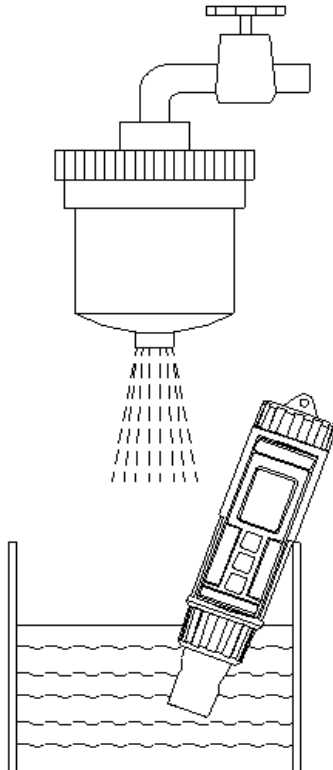

Fig. 4
3) Secondary check the reading values (  $\mu\text{S}$  ) for the water that already make the treatment ( after the FILTER ), ref. Fig. 4.